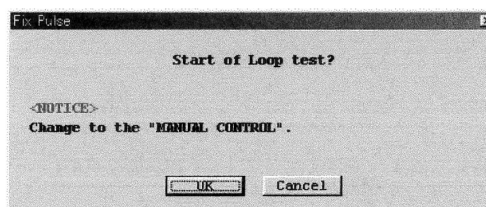

Fig.85
- ③ A message box as shown in Fig. 85 appears. If you want to use a pulse output for the simulated output, click on "OK".